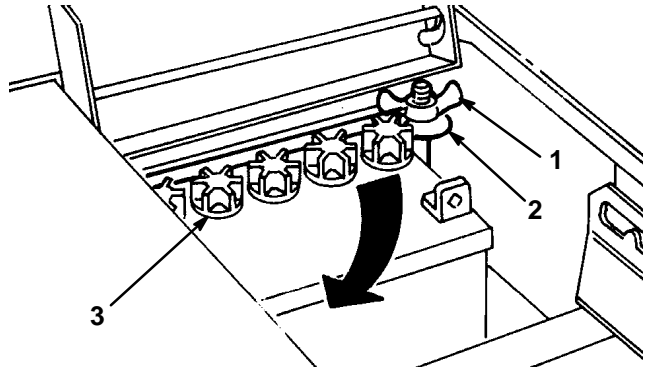

Figure 4
2. Remove wing nut securing battery hold downs to rider chassis (Fig.4).